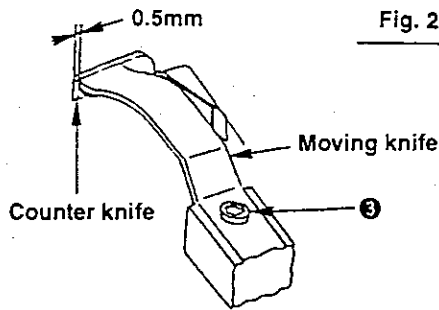

Fig. 4
<p>3) Knife pressure</p> <p>Adjust, when the moving knife and the counter knife come in contact with each other, the attaching position of the moving knife so that the moving knife starts coming in contact with the counter knife at the position that is 5.5 to 6.5 mm away from the top end of the moving knife. (Fig. 3 and Fig. 4)</p> <p>At this time, perform the aforementioned adjustment after loosening attaching screw ❸ of the moving knife. (Fig. 4)</p>	<ul style="list-style-type: none"> • If the knife pressure is too high : The counter knife blade and the moving knife blade may break. • If the knife pressure is too low : Thread trimming failure may result.